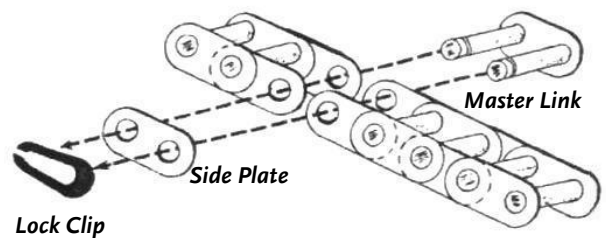

Figure 25
5. Remove the Master Chain Link (**Figure 25**). First, remove the Lock Clip by spreading the Clip with the Screwdriver and at the same time, slide the Lock Clip back off the Master Link pins with the Needle-Nosed Pliers. Next, remove the Side Plate, and then remove the Master Chain Link.
8. Carefully install the Master Chain Link (**Figure 25** on page 41) in the reverse order of step 5.